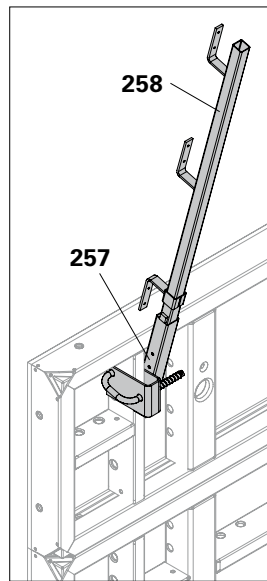

Fig. A7.36
(Fig. A7.36 + A7.36a)
1. Hook in Guardrail Post Holder (257) into the connecting holes of the panels.
3. Insert Guardrail Posts (258). (Fig. A7.36)